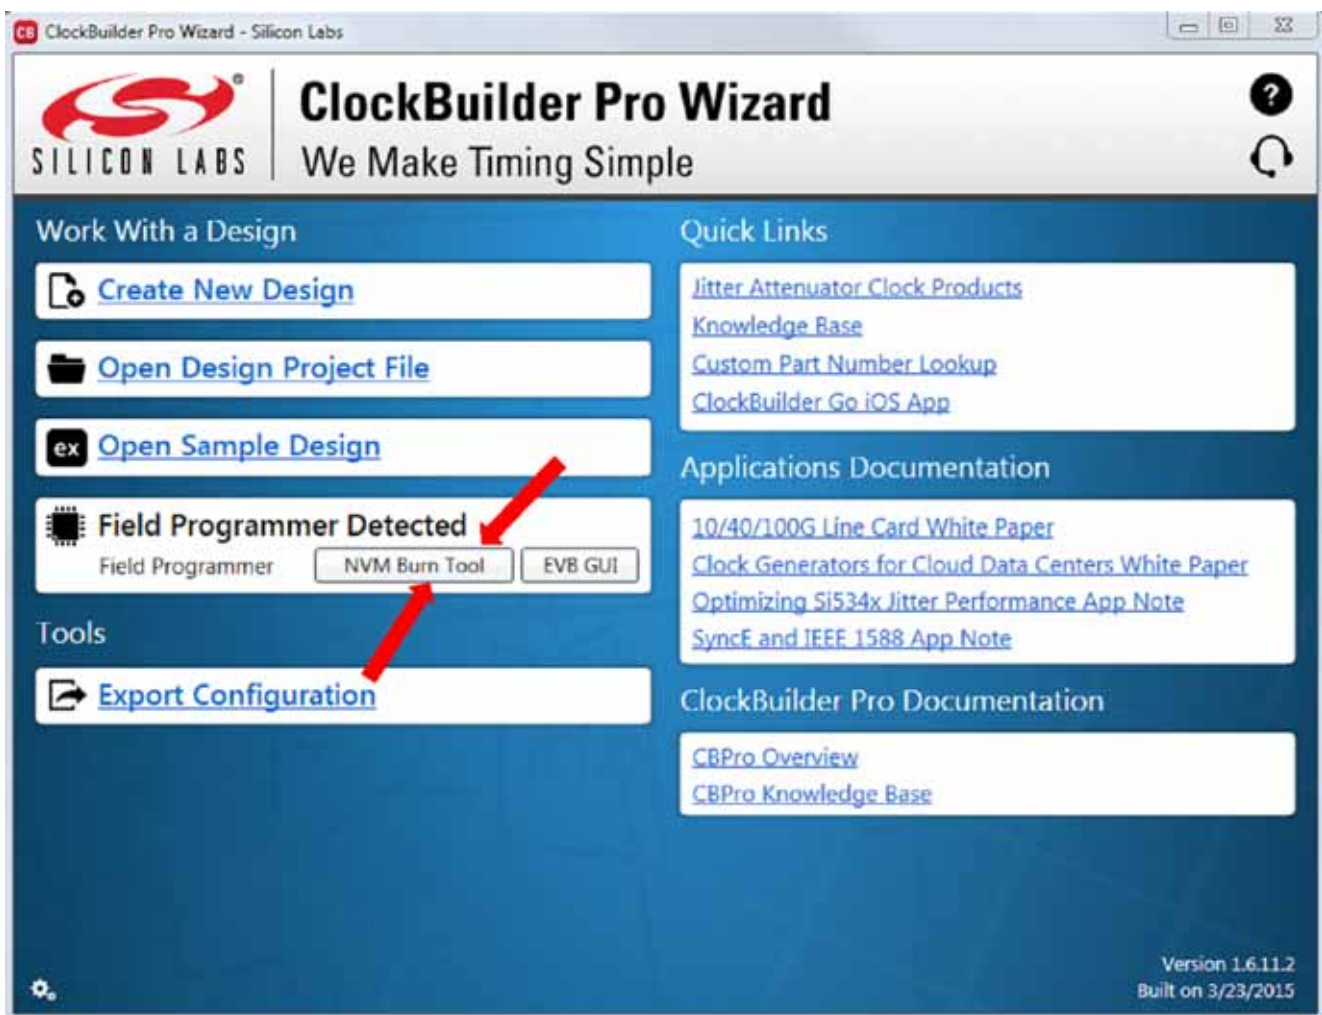

Figure 9. ClockBuilder Pro Wizard
5. The ClockBuilder Pro Wizard main menu should now appear as shown in Figure 9. Select the “NVM Burn Tool” as shown. **Do not select EVB GUI.**